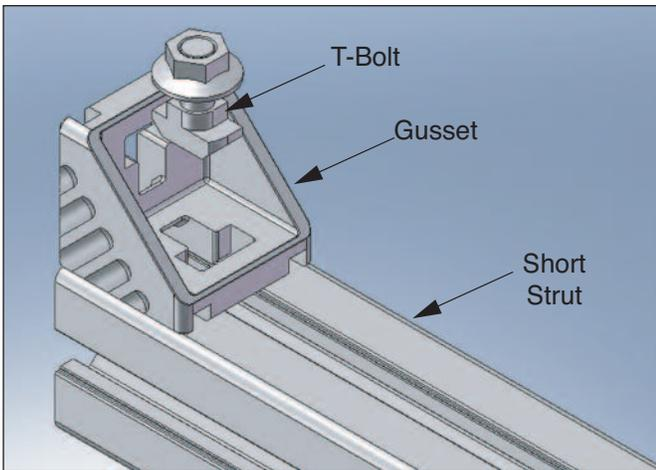

Fig. 2: Gusset Assembly
3. Place a Gusset on each end of the Short Strut as shown in Figure 2. The edge of each Gusset should be flush with the end of the strut. The
4. Thread a nut onto the end of a T-Bolt as shown in Figure 2. Install a T-Bolt and nut through the opening in each Gusset and into the channel of the strut. Tightening the nut will cause the bolt to turn clockwise 90°. Tighten the nut and confirm that the T-Bolt rotated 90° and is fully engaging the channel of the strut.
For ease of installation, it is best to lower the T-Bolt and nut down in to the strut as shown in Figure 2. Note that the end of each T-Bolt has a mark to indicate the orientation of the bolt head. This mark can be used to confirm that the T-Bolt has rotated the entire 90°.